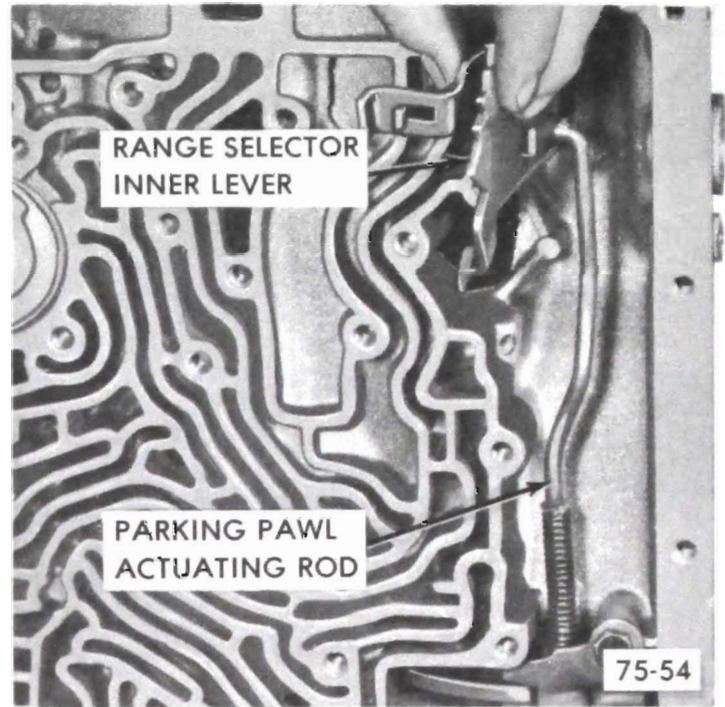

Figure 75-262
6. Install actuating rod under the park lock bracket and parking pawl. See Figure 75-262.